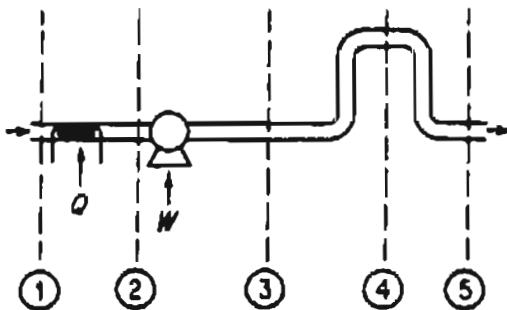

Figure E24.1
Figure E24.1 illustrates a process in which several segments are distinguished by numbered boundaries. List the simplifying assumptions to make in Equation (24.1) for the following segments: 1 to 5, 4 to 5, 3 to 4, 3 to 5, and 1 to 3.
1. Simplify Equation (24.1) as much as possible for sections (a) 2 to 3 and (b) 2 to 4 in Figure E24.1